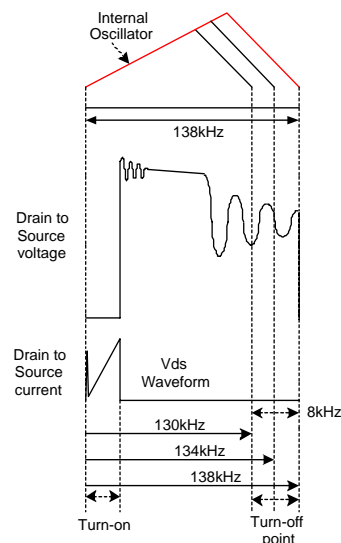

Figure 14. Frequency Modulation Waveforms
7. Frequency Modulation : EMI reduction can be accomplished by modulating the switching frequency of a SMPS. Frequency modulation can reduce EMI by spreading the energy over a wider frequency range. The amount of EMI reduction is directly related to the level of modulation (Fmod) and the rate of modulation. As can be seen in Figure 14, the frequency changes from 130kHz to 138kHz in 4mS for the FSD200/FSD210. Frequency modulation allows the use of a cost effective inductor instead of an AC input mode choke to satisfy the requirements of world wide EMI limits.